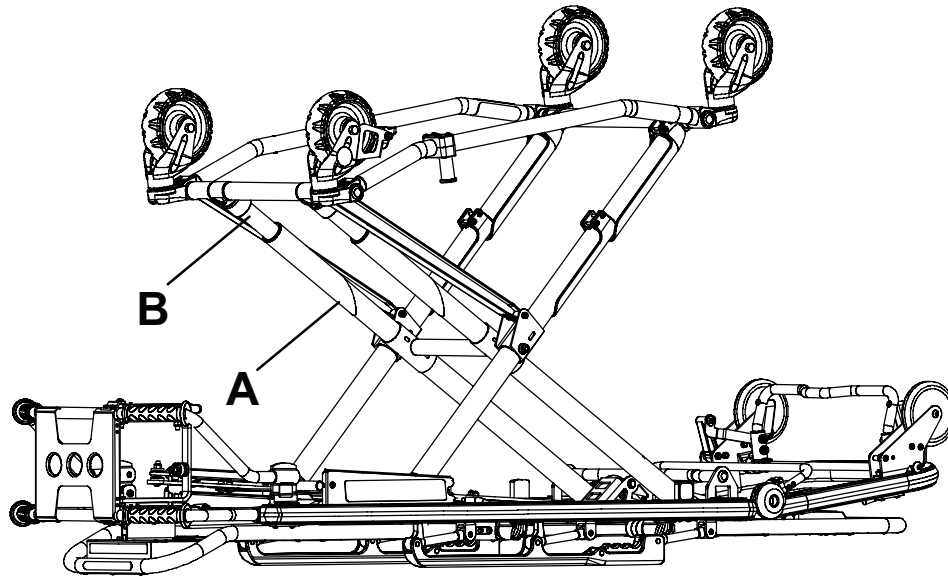

Figure 2 – Base lubrication locations
3. Using the plastic applicator tube, spray **Tri-Flow™** with **Teflon®** lubricant (6082-199-012) in the gap between the upper (A) and lower lift tubes (B) on both foot end legs (Figure 2).